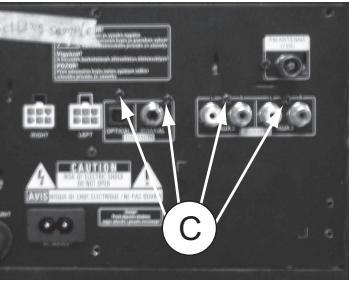

Figure 3
- 1) Loosen 4 screws "C" as shown in figure 3.